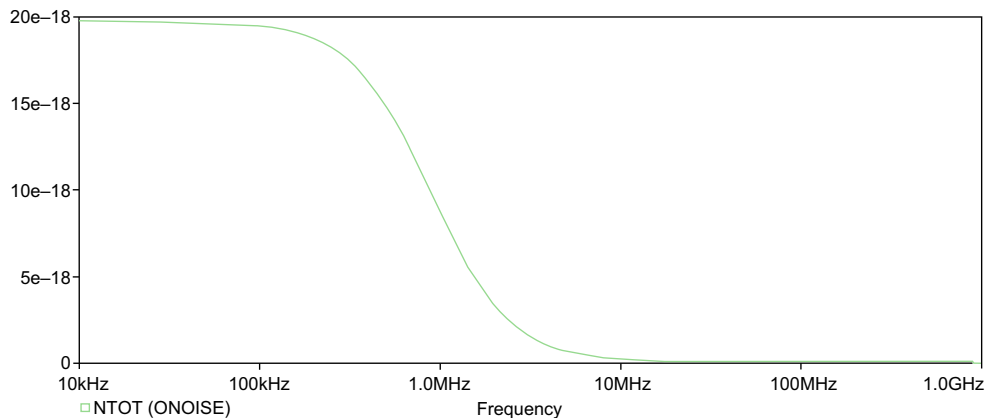

FIGURE 14.8
10. Add the NTOT(ONoise) trace, which is the total output noise for the circuit in units of V^2/Hz as shown in Figure 14.8.